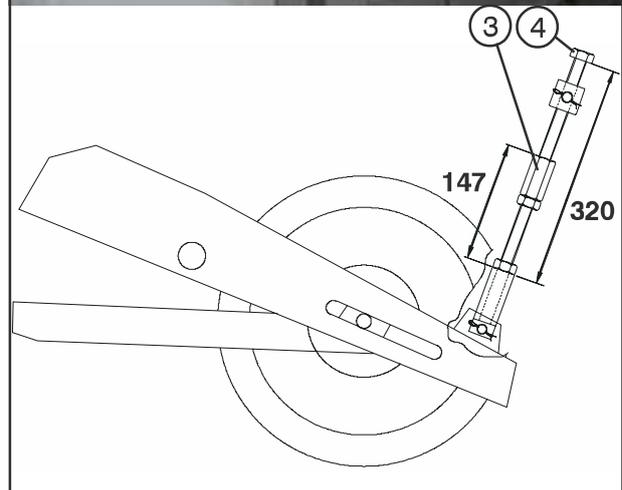

Fig. 3
This pre-adjustment must be according to the dimension in the Fig. 3, corresponding to the tie rod (4) and spindle (3).